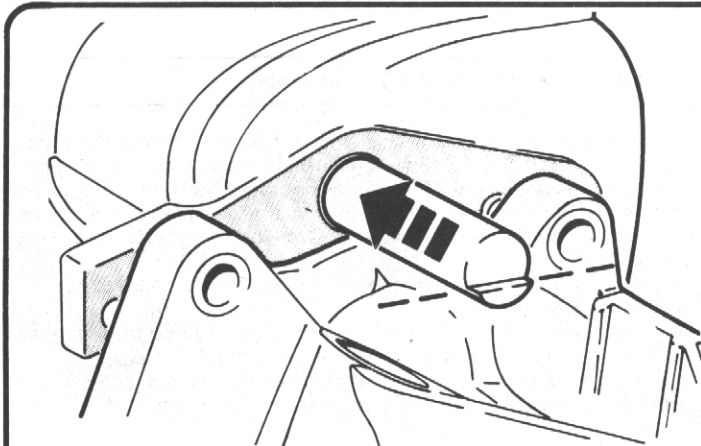

Fig 6.13 Countershaft flat alignment on A and B type gearboxes (Sec 8)
- 15 Line up the thrustwashers and insert the countershaft from the rear of the main casing. Using a soft metal drift, drive the countershaft into the main casing until flush. The flat on the rear end of the countershaft must be horizontal (Figs. 6.13 and 6.14).